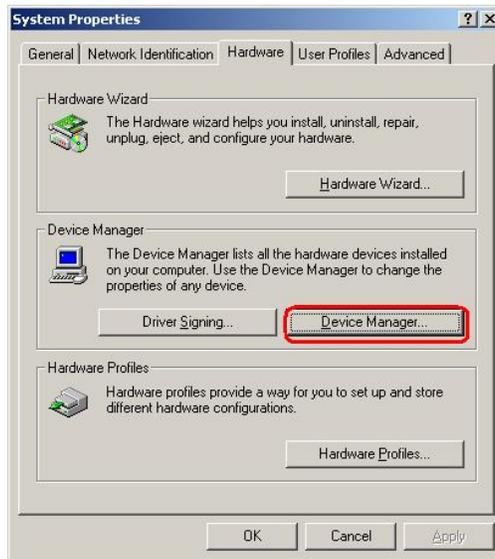

Figure 6-17: Double Click the Device Manager Tab
Step 3: Double click the **Device Manager** tab (Figure 6-17).